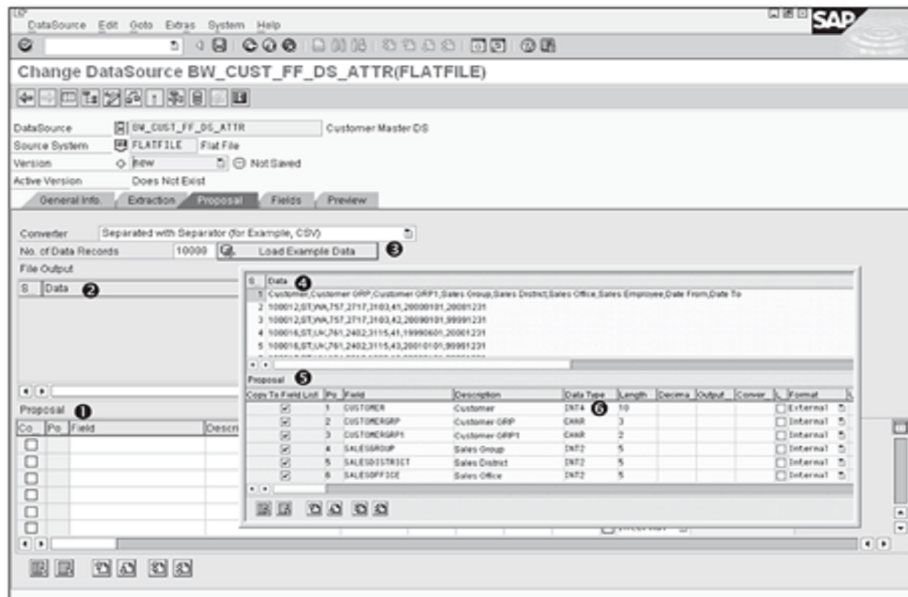

Figure 7.13 Create DataSource: Proposal Tab
The Proposal tab (Figure 7.13) reads records from the file you specified in the Extraction tab and proposes the structure for the flat file and the technical specification
As shown in ❶ and ❷ of Figure 7.13, the Proposal and Data areas of the screen are empty in the beginning. Click Load Example Data (❸). By default, SAP NetWeaver BW sets the number of data records to be read as 10,000. Reduce the number to 10 or 12 because that's all you need from the flat file to report anomalies in structure.
When you click Load Example Data, the Data and Proposal areas are filled with information (❹ and ❺ of Figure 7.13). You can see from ❺ of Figure 7.13 that the first field's data type is INT4, and the length is 10. As you may recall, our definition of InfoObject BW_CUST listed the data type as CHAR = 10 (refer to Chapter 3), but the proposal given by the system is INT4 because the data available in the file is numerical. We'll describe how to change this incorrect information when we explain the Fields tab (next section). Even if some of the data is wrong, using the proposal function provides the list of fields in the correct sequence, so it's still useful.